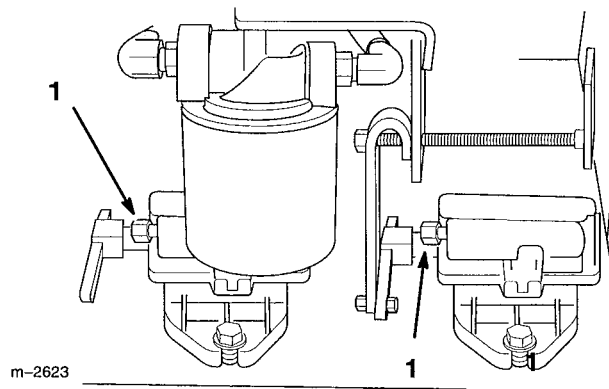

Figure 14
2. Rotate the by-pass valves counterclockwise 2 turns to push. This allows hydraulic fluid to by-pass the pump and the wheels to turn (Fig. 14).
1. Turn the by-pass valves in to operate (Fig. 14).